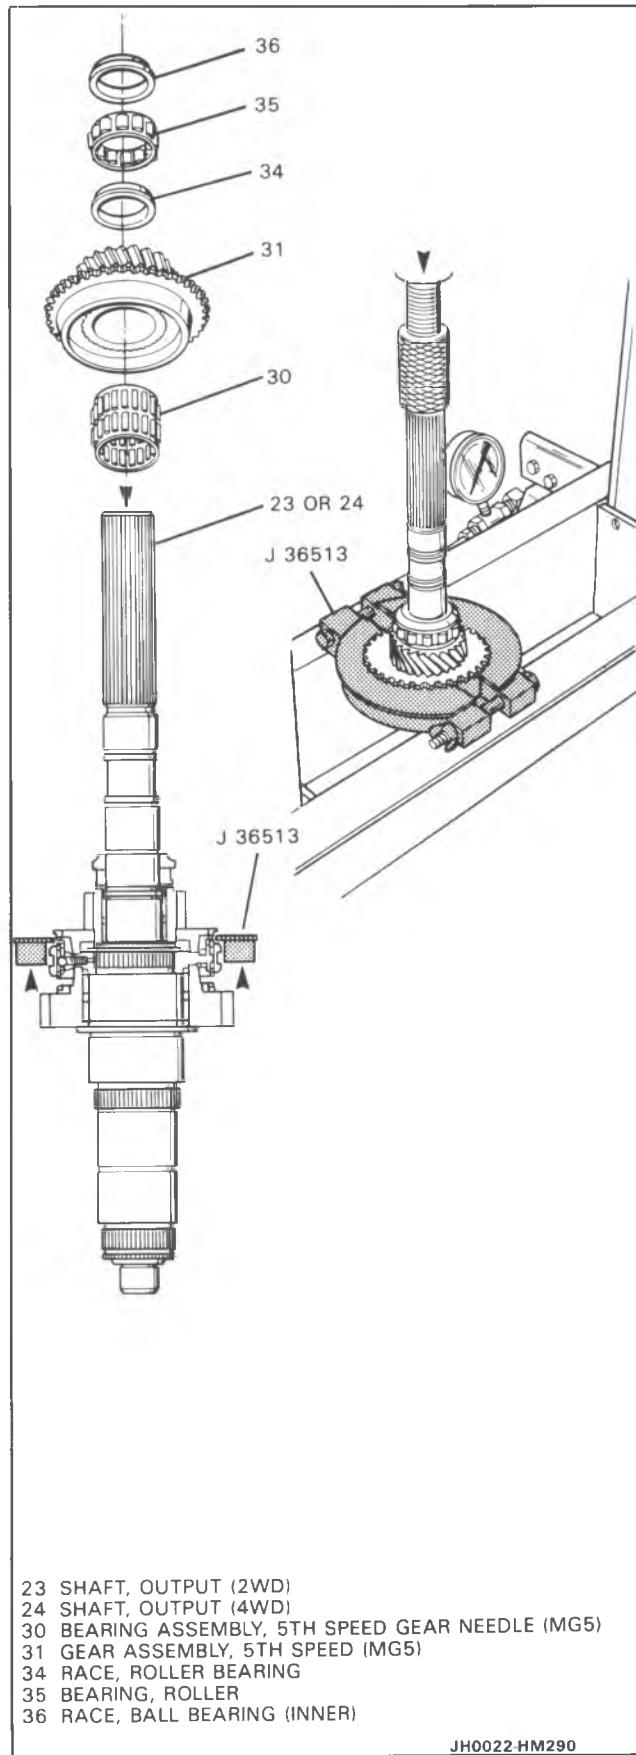

Figure 29 Removing 5th Gear Components
10. Inner ball bearing race (36), roller bearing (35), roller bearing race (34) and fifth speed gear (31) using J 36513 and hydraulic press (Figure 29).
11. Fifth speed gear bearing (30).